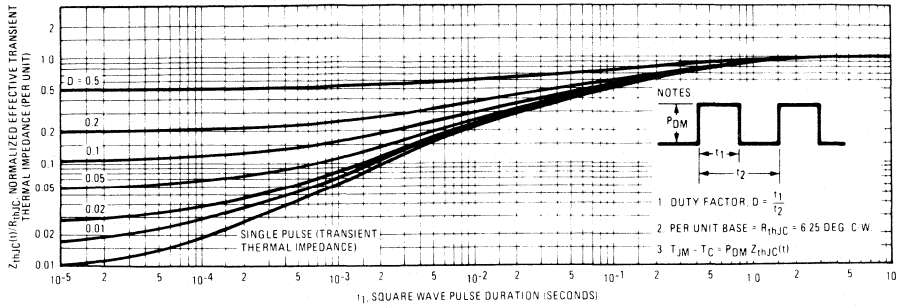

Fig. 5 — Maximum Effective Transient Thermal Impedance, Junction-to-Case Vs. Pulse Duration
① $T_J = 25^\circ\text{C}$ to 150°C . ② Pulse Test: Pulse width $\leq 300\mu\text{s}$, Duty Cycle $\leq 2\%$.
③ Repetitive Rating: Pulse width limited by max. junction temperature. See Transient Thermal Impedance Curve (Fig. 5).